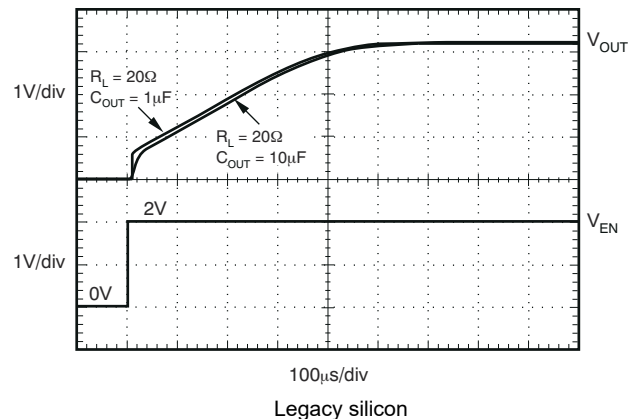

图 5-32. TPS73701 Turn-On Response
The enable pin (EN) is active high and compatible with standard TTL-CMOS levels. V_{EN} below 0.5 V (maximum) turns the regulator off and drops the GND pin current to approximately 10 nA. When EN is used to shutdown the regulator, all charge is removed from the pass transistor gate, and the output ramps back up to a regulated V_{OUT} (see Figure 5-32).